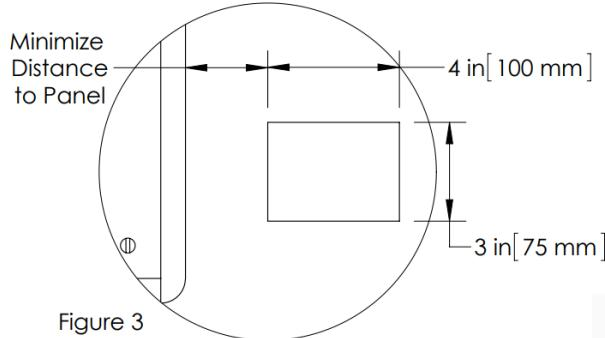

Figure 3
- Cut mounting hole.** Measure and cut a hole in the mounting substrate (wall) for the SPD per Figure 3. Ensure the mounting hole will allow the SPD to properly connect to the panel per the instructions included with the SPD.